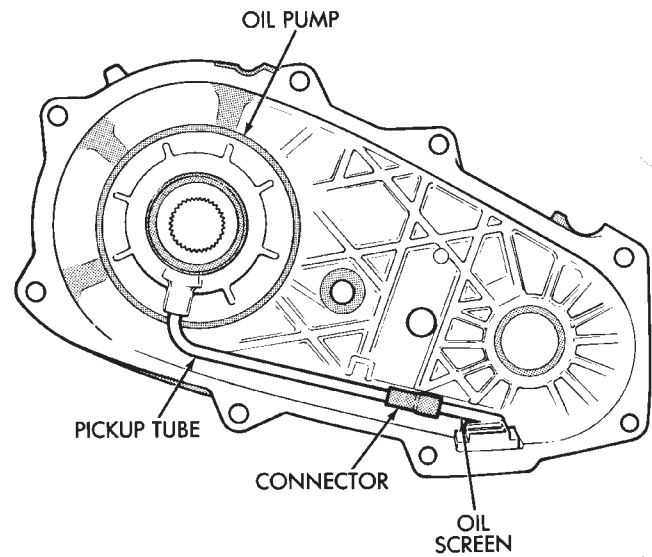

Fig. 79 Installing Oil Screen And Pickup Tube
(59) Insert oil pickup tube in oil pump and attach oil screen and connector hose to pickup tube. Then install assembled pump, tube and screen in rear case (Fig. 79). Be sure screen is seated in case slot as shown.